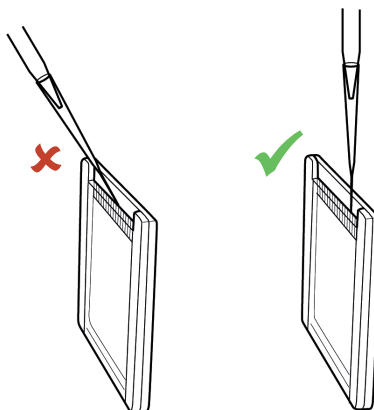

Figure 6. Gel Loading
3. To load the samples into the wells, vertically insert tip for optimal sample loading results (Figure 6). Do not exceed well capacity when loading samples: 80 μL for 10-well gels; 60 μL for 12-well gels; and 40 μL for 15-well gels.